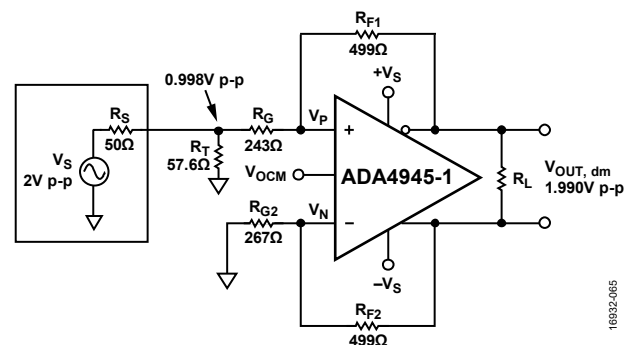

Figure 109. Terminated Single-Ended-to-Differential System with $G = 1$
5. The modified gain resistor, R_{G1} , changes the input impedance. Repeat Step 1 through Step 4 several times using the modified value of R_{G1} from the previous iteration until the value of R_T does not change from the previous iteration. After three additional iterations, the change in R_{G1} is less than 0.1%. The final circuit is shown in Figure 109 with the closest 1% resistor values.